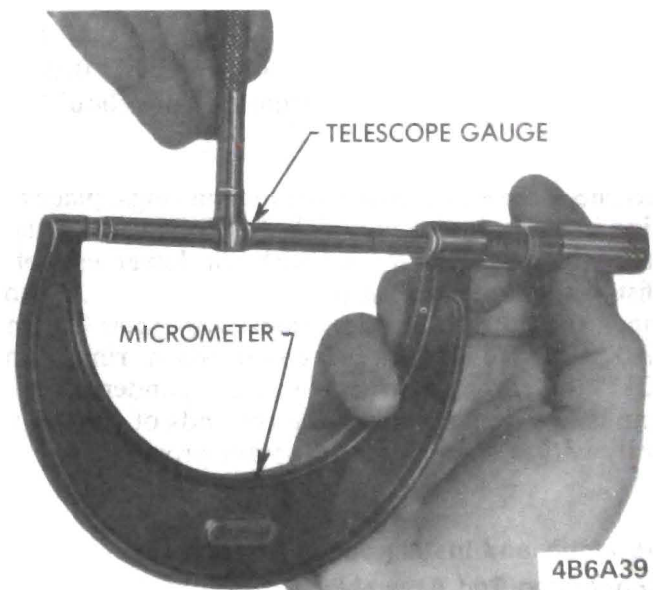

Figure 6A-87 - Measuring Telescope Gauge
3. Measure the piston to be installed. See Figure 6A-85. The piston must be measured at right angles to the piston pin 1/4" below the oil ring groove. The